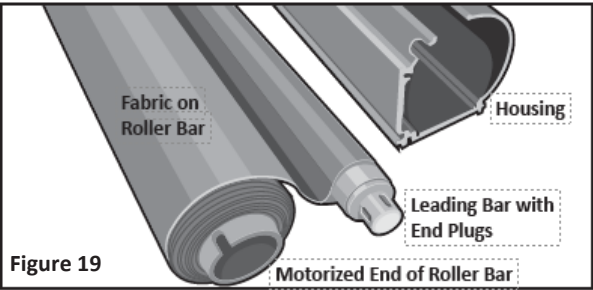

Figure 19
29. Orient the leading bar so that you can slide the non-motorized end of the roller bar into the housing. See Figure 19.